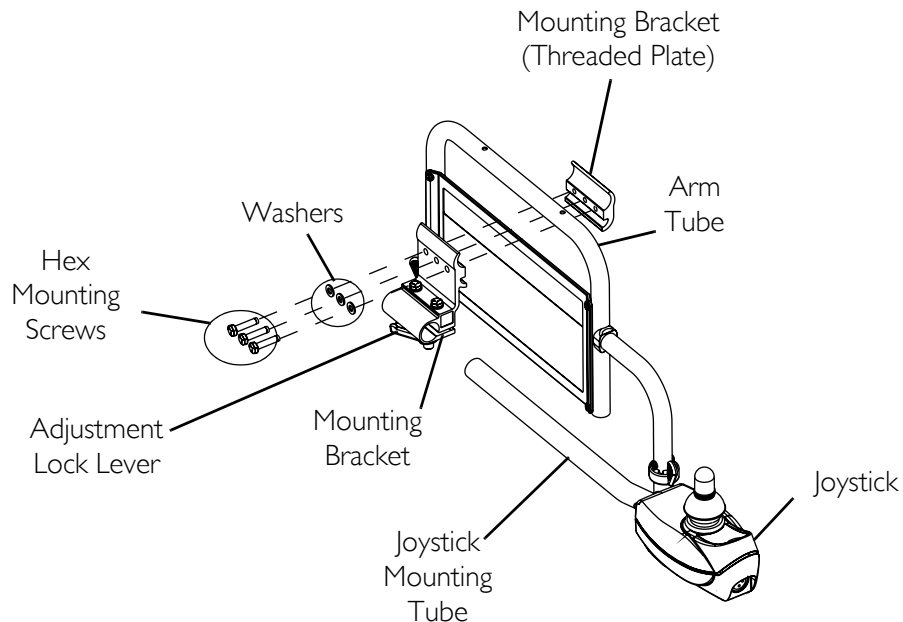

FIGURE 10.2 Repositioning the Joystick
NOTE: For this procedure, refer to FIGURE 10.2.
3. Remove the three (3) hex screws that secure the halves ($\frac{1}{2}$) of the mounting bracket to the arm tube.
4. Reposition mounting bracket on opposite arm tube ensuring the threaded plate of the mounting bracket is on the inside of the arm tube as shown in FIGURE 10.2.
5. Using the three (3) hex mounting screws and washers, secure the halves ($\frac{1}{2}$) of the mounting bracket to the arm tube.